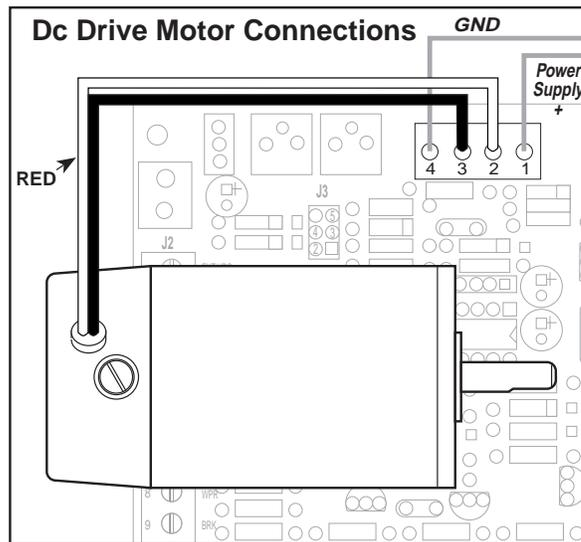

Figure 13
1. Refer to Figure 13. Connect motor RED (positive) wire to MOTOR + (terminal 2).